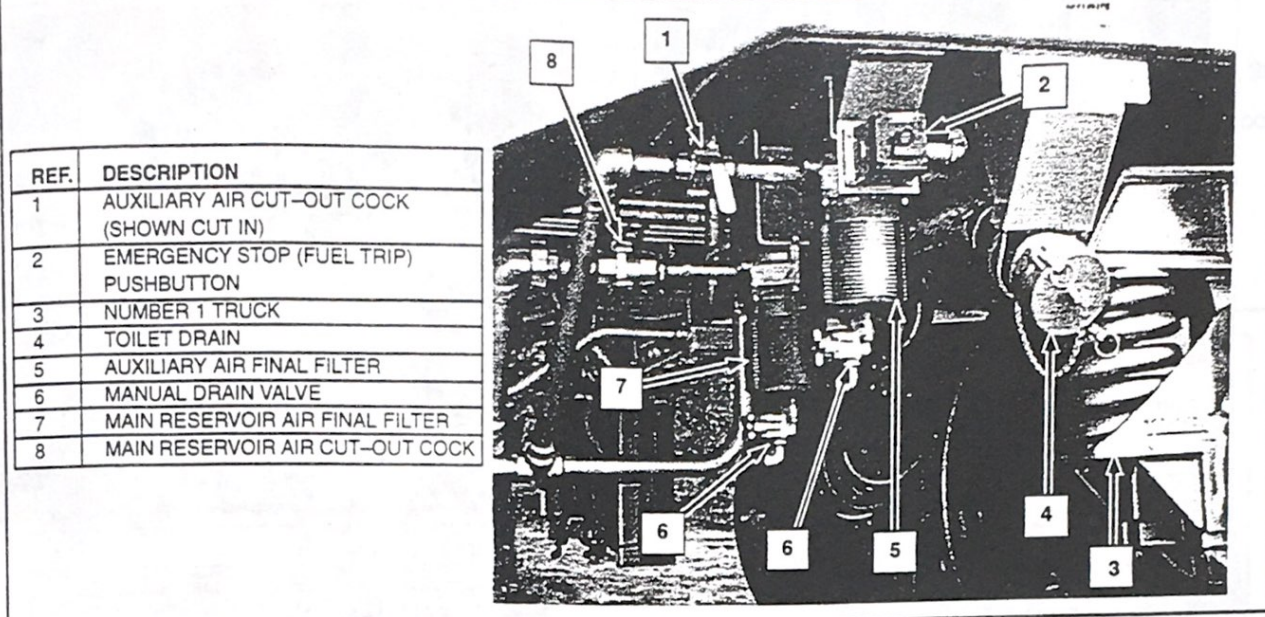

FIG. 24. MAIN AND AUXILIARY AIR CUT-OUT COCKS AND FILTERS. E-41055A.
3. Main Reservoir and Auxiliary Air Cut-Out Cocks – Located on right side of locomotive near the main reservoir and auxiliary air final filters (Items 1 and 8, Fig. 24).
4. Air Filter Drain cocks – Located on the main reservoir and auxiliary air filters (Item 6, Fig. 24).